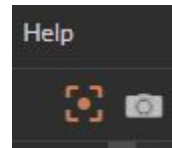

Fig. 23
6. Select the laser focus icon.(See Fig.23)